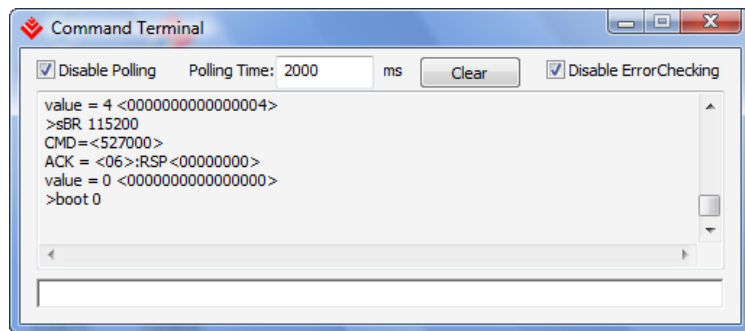

Figure 5.5 – Command terminal
1. **Command Terminal** – shows information about all the commands sent to or received from the camera. User can type in Bobcat command directly in the text box provided – Figure 5.5. All commands must start with **0x** followed by **ADDRESS** and **DATA**, without spaces – refer to chapter 4 for more information. The “Disable Polling” check box will turn on/off the polling commands (such as Frame Time, Exposure time, Frame Rate and Sensor Temperature) in the dialog windows. The user can change the polling time by entering the desired number in the window. If for some reason the camera returns an error, when command was sent to the camera, the GUI will respond with a pop-up window displaying an error message. The user has option to disable the error checking by enabling the “Disable Error Checking” box.